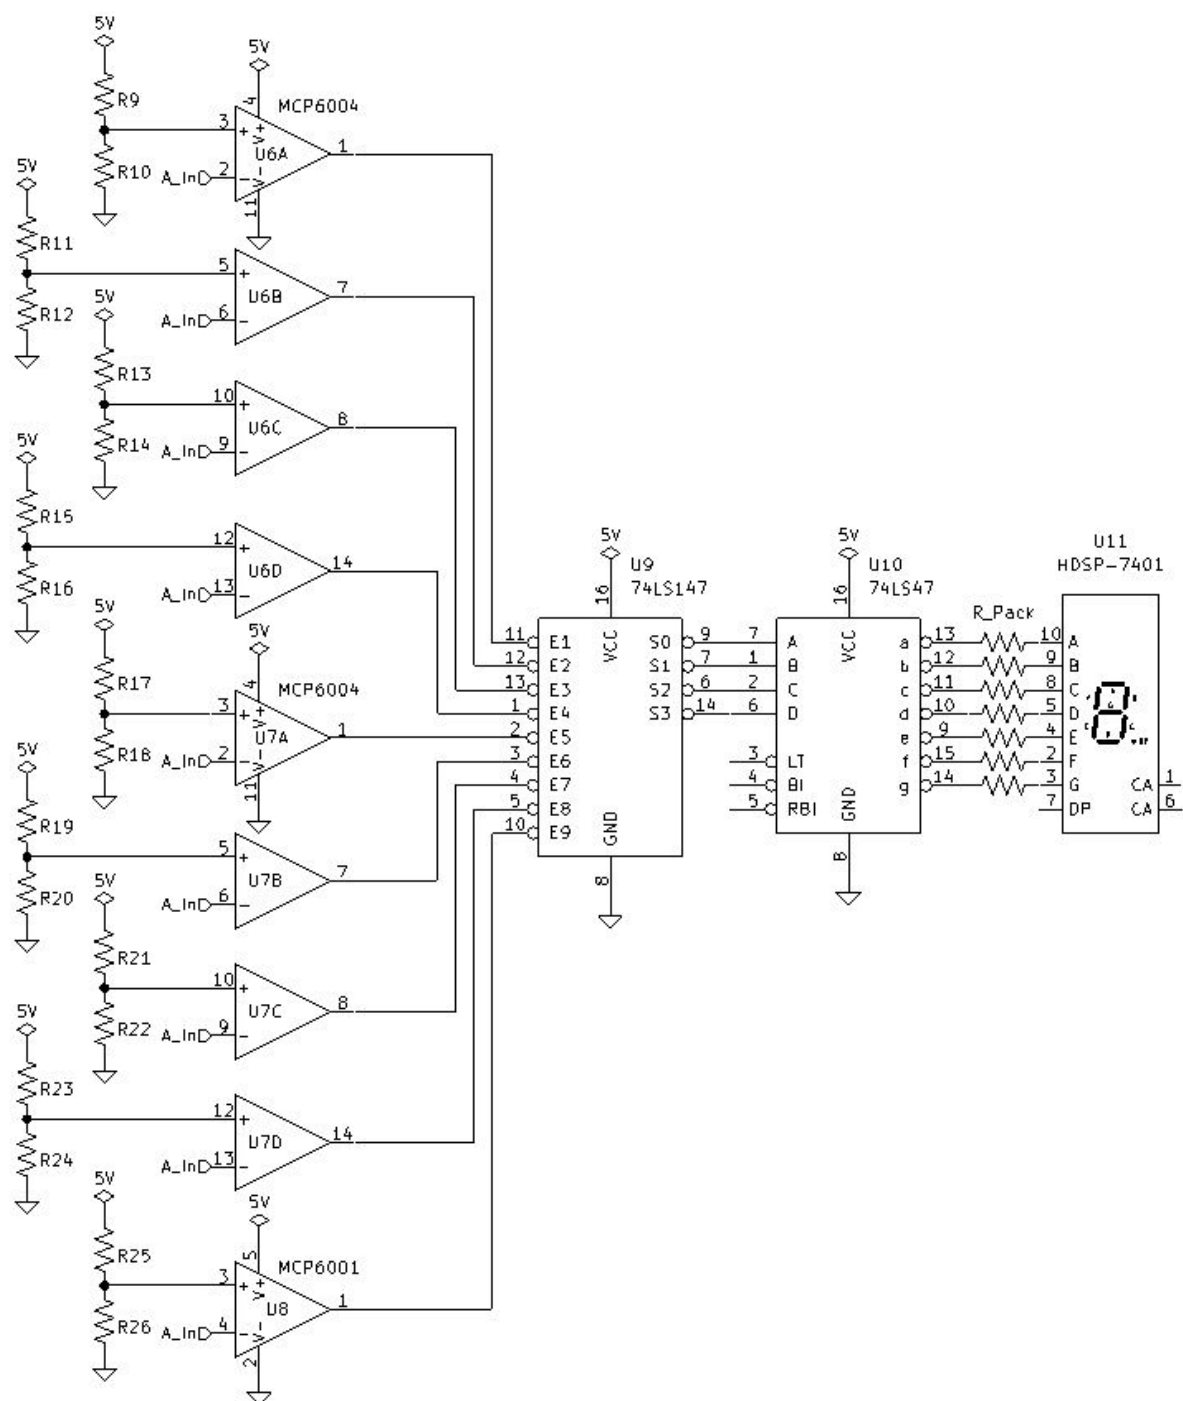

Figure 8.2: ADC Engineering Department Prototype Circuit.
- The Engineering Department has sent you an ADC prototype circuit that they are working on. The ADC circuit is not working as expected. The Engineering Department needs you to analyze the circuit and make sure all the connections are correct. See Figure 8.2 *ADC Engineering Department Prototype Circuit* on page 80.